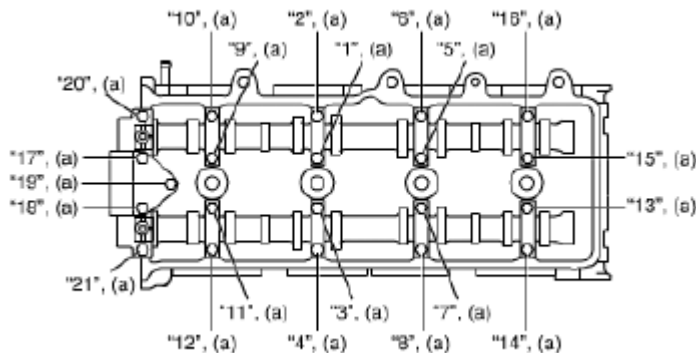

Fig. 103: Identifying Camshaft Housing Bolt Tightening Sequence
5. Tighten camshaft housing bolts in such order as indicated in **Fig. 103** a little at a time till they are tightened to specified torque.